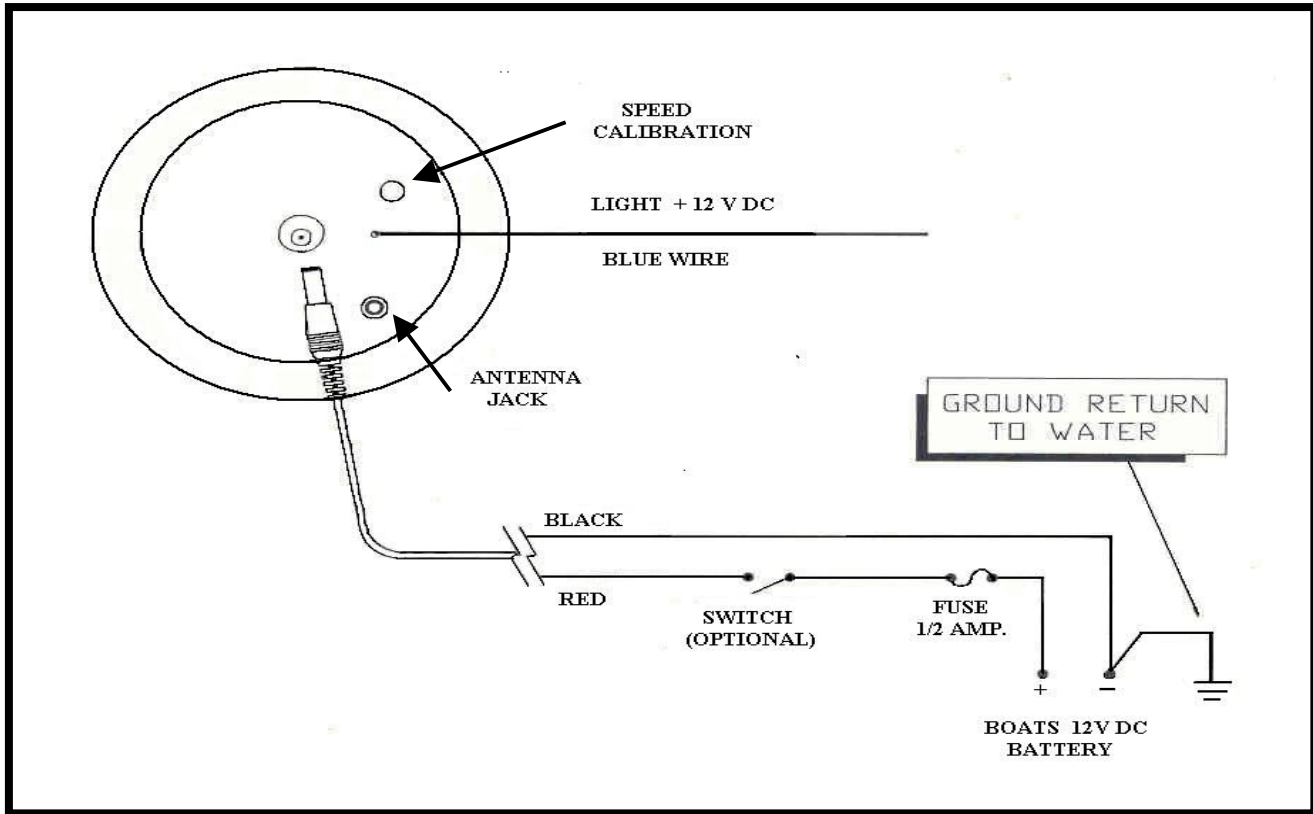

FIG. 2 – WIRING DIAGRAM
STEP 2. CONNECT INSTRUMENT HEAD TO POWER SUPPLY (See Figure 2)